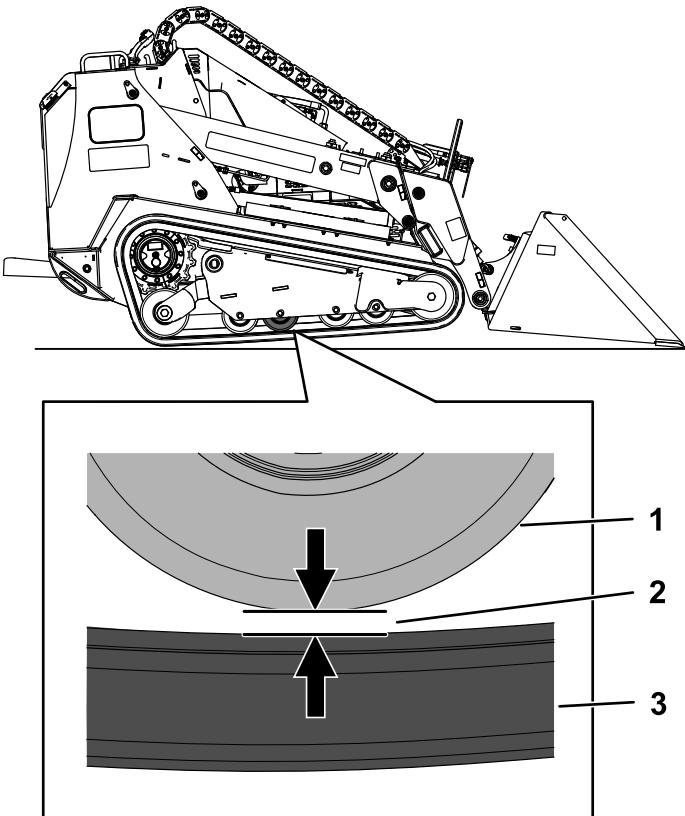

Figure 63
4. Verify that the gap between the 2nd road wheel from the rear and the track is 20 mm (0.8 inch) as shown in Figure 63. If adjustment is needed, proceed to <a href="#">Adjusting the Track Tension (page 48)</a>
7. Using a 1/2 inch drive ratchet, turn the tensioning screw until the gap between the road wheel and track is 20 mm (0.79 inch) as shown in Figure 63.
the road wheel and track is 20 mm (0.79 inch) as shown in Figure 63.